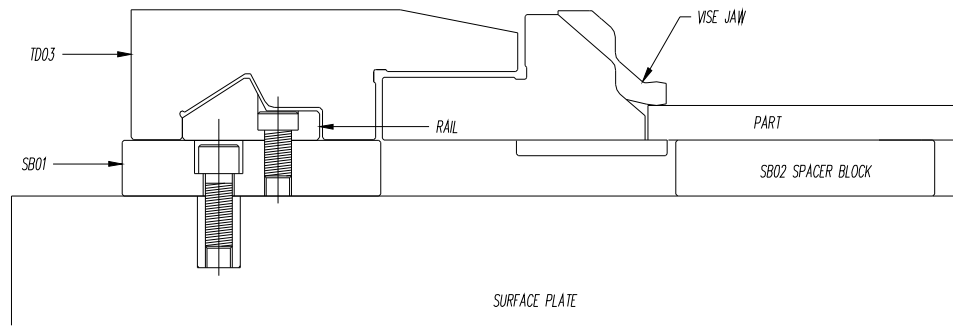

Figure 4
STEP 5. Place the work piece on the SB02 and carefully slide them up to the bed of the work holder as shown in Fig. 4.